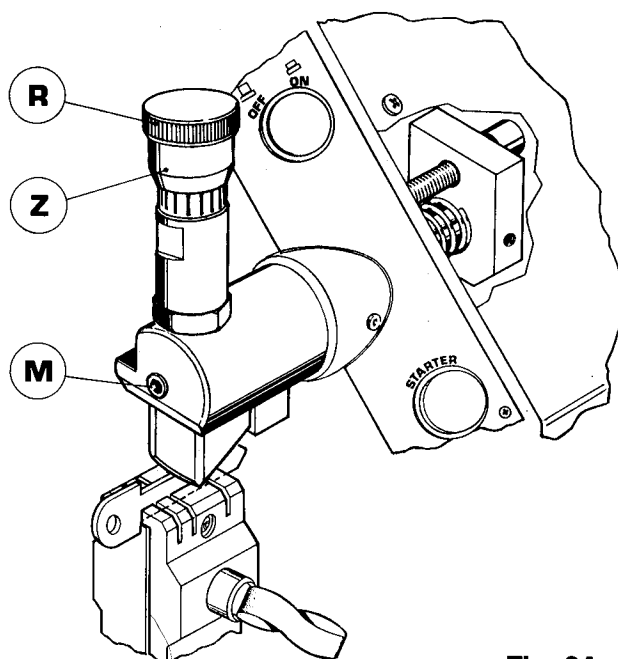

Fig. 3A
2) - **Tastatore micrometrico "POKER PLUS"** (fig. 3A).
- 2) - **"POKER PLUS" micrometric tracer point** (fig. 3A).
- 2) - **Tâteur micrométrique "POKER PLUS"** (fig. 3A).
- 2) - **Mikrometrischer Taster "POKER PLUS"** (Abb. 3A).
- 2) - **Palpador micrométrico "POKER PLUS"** (fig. 3A).